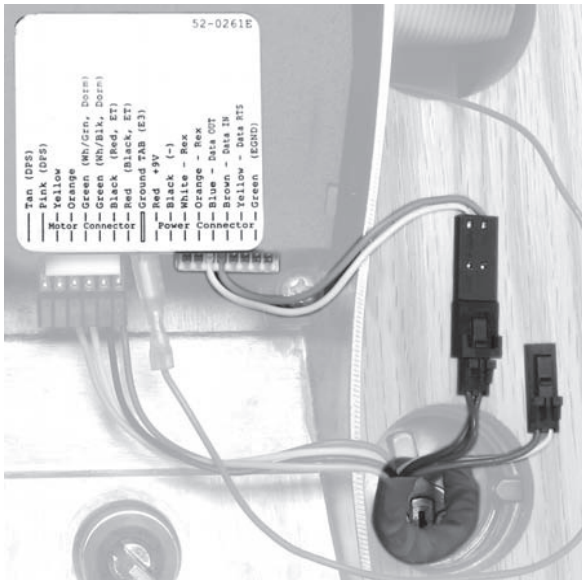

Fig. 7C
- For LH/LHR lock: Connect lock's two-pin connector with blue & yellow wires to adapter harness (as shown in Fig. 7C)